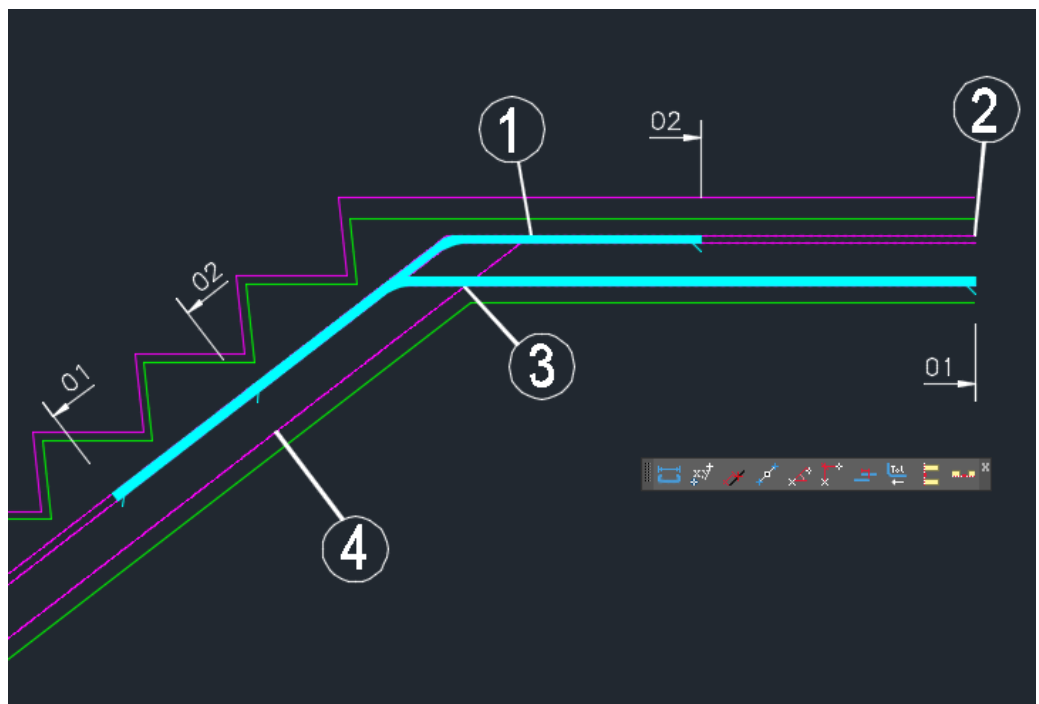

Figure 3.6.16:1 Placing Order of Shape Code 128 in the top landing
- ▶ Figure 3.6.16:1 above shows where to pick the points to place the bar